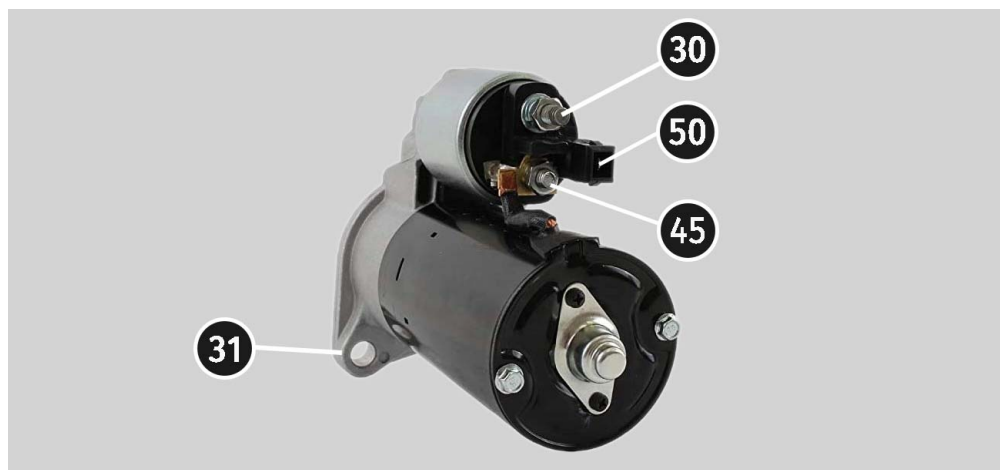

Figure 15. Terminal locations on the starter
3. Connect the "50" terminal of the bench via a cable to the control terminal of the starter solenoid (terminal 50), as shown in Fig. 15.
4. Connect the bench terminals K30 and K45 to the corresponding terminals of the starter, as shown in Fig. 15.